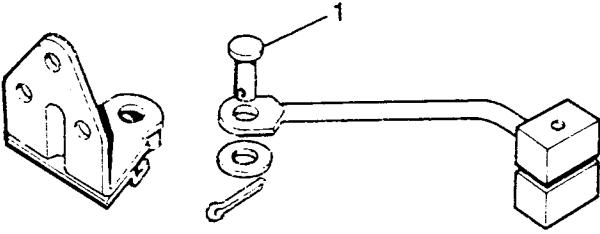

Fig M3.3
- (1) Refer to Fig M3.3. Disconnect the door check strap (1).